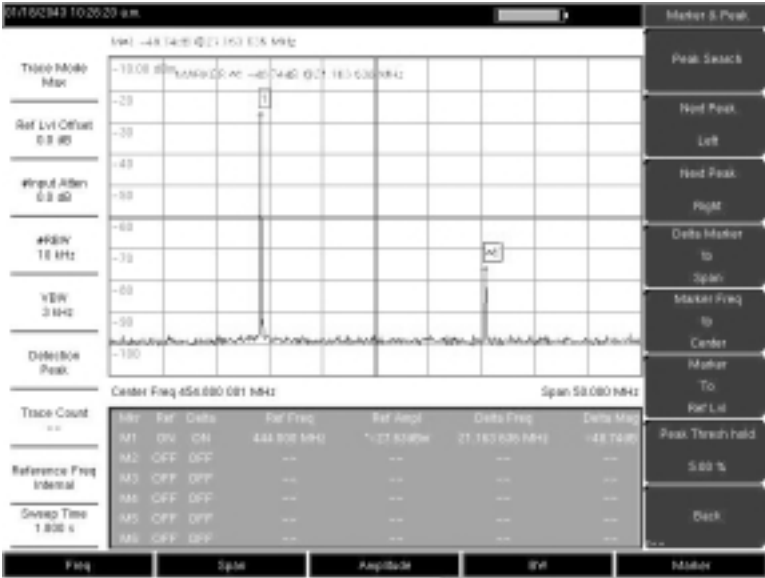

Figure 5-2. Simulated Out-of-Band Spurious Emission Measurement
Step 10. Repeat Steps 9 and 10 for the remaining spurs. Use either Marker 1 again, or choose another marker. Figure 5-2 shows a simulated out-of-band spurious signal 21.000 MHz from the carrier using a delta marker.